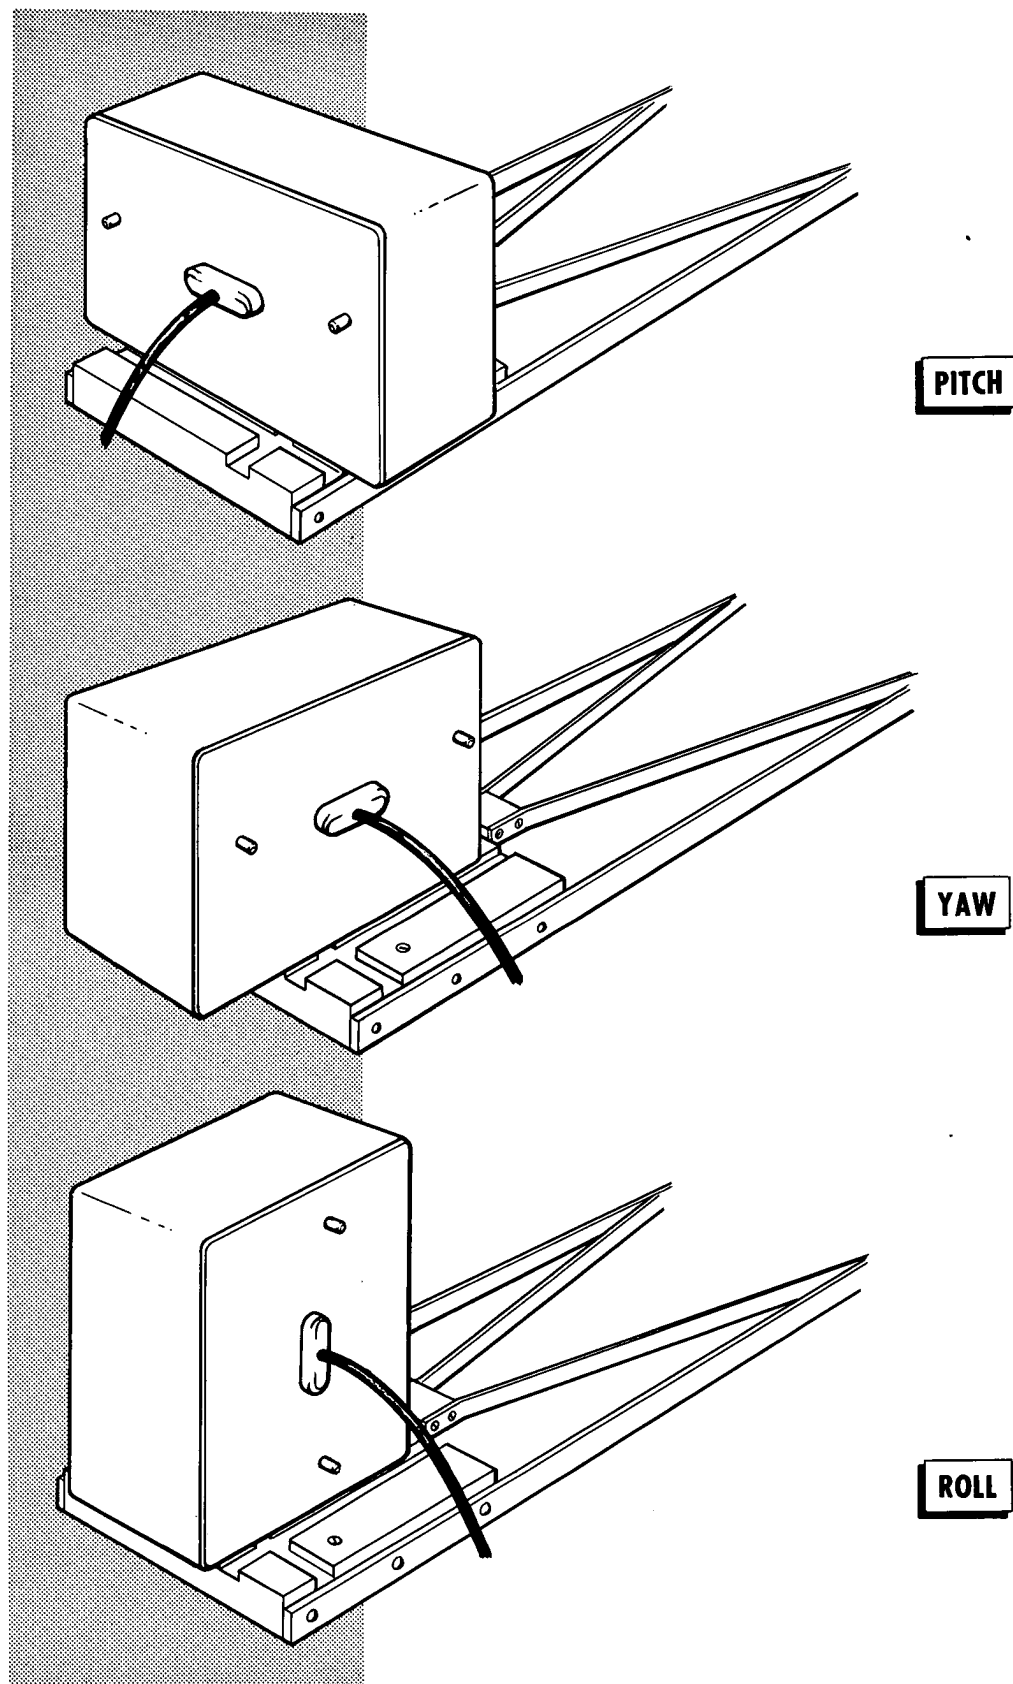

Figure 4-1. Vibration Detector Test Attitudes
- a. Place the vibration detector to be tested on the mounting platform in the desired test position, see figure 4-1.
4-2. ROLL GYRO SENSITIVITY TEST (See figure 4-1.)
4-3. PITCH GYRO SENSITIVITY TEST (See figure 4-1.)
4-4. YAW GYRO SENSITIVITY TEST (See figure 4-1.)